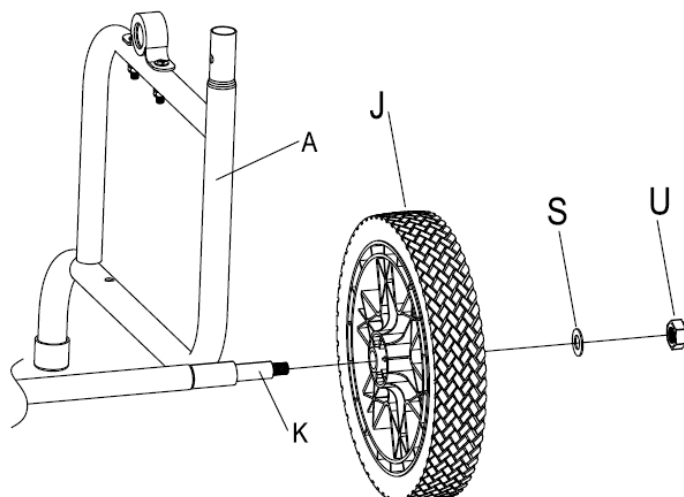
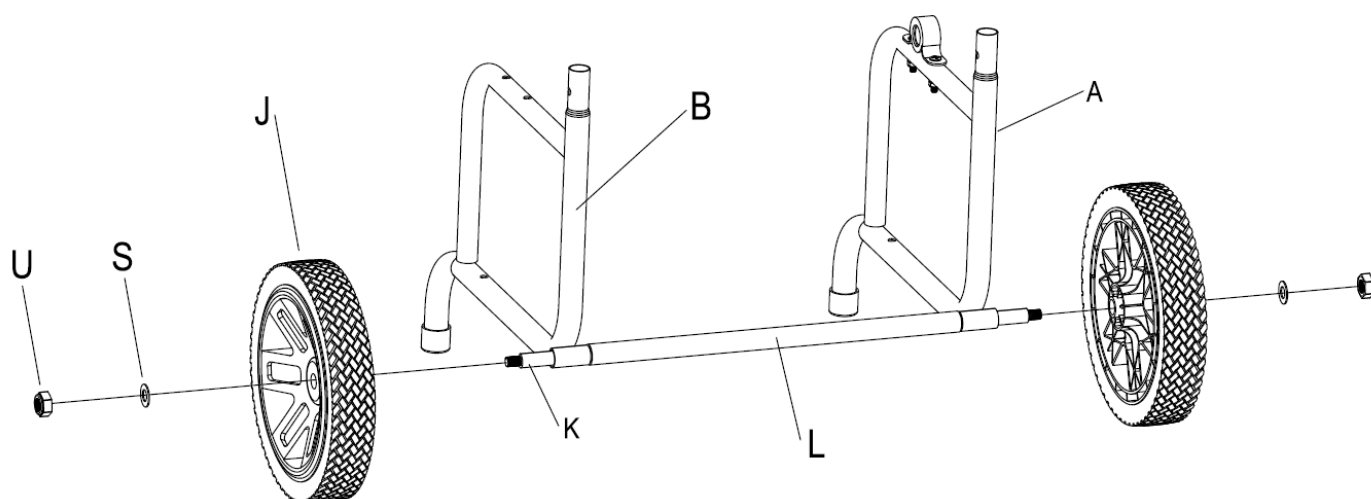

Figure 2.1
Figure 2.2
Step 2: Slide the Axle (K) through the Wheel (J), then attach the Washer (S) and Lock Nut (U). Refer to Figure 2.1 and Figure 2.2. Repeat for opposite side.